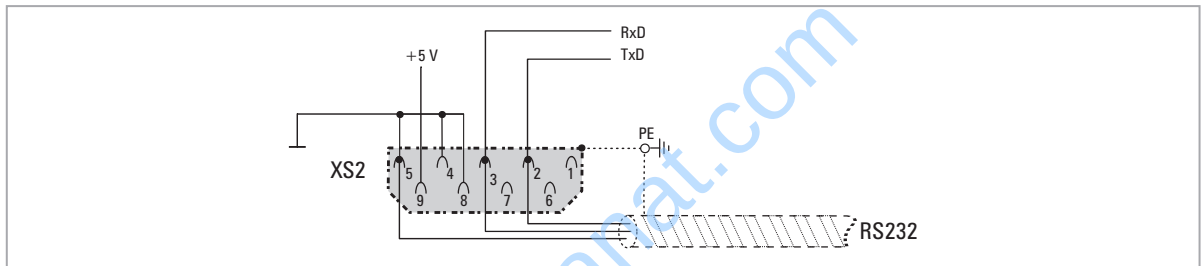

Figure 7.5.1: Serial connection (not isolated)
- a shielded cable (code 8S8F59) for connection to the RS232 PC port of the drive to the RS232 connector of the PC, see figure 7.5.1-A.
- a shielded cable (code 8S8F59) for connection to the RS232 PC port of the drive to the RS232 connector of the PC, see figure 7.5.1-B.
- a shielded cable (code 8S8F59) for connection to the RS232 PC port of the drive to the USB/RS232 adapter, see figure 7.5.1-C.